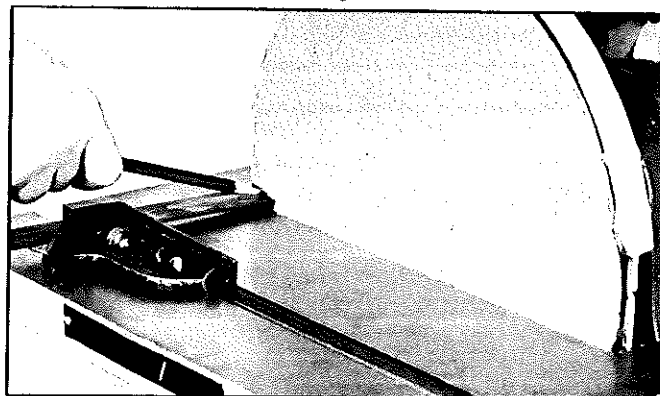

Fig. 24
1. Check to see if the miter gage slot is parallel with the sanding disc by placing a square in the miter gage slot with one end of the square against the sanding disc, as shown in Fig. 24.
2. Using a pencil, make a mark on the sanding disc where the square contacts the disc, as shown in Fig. 24.